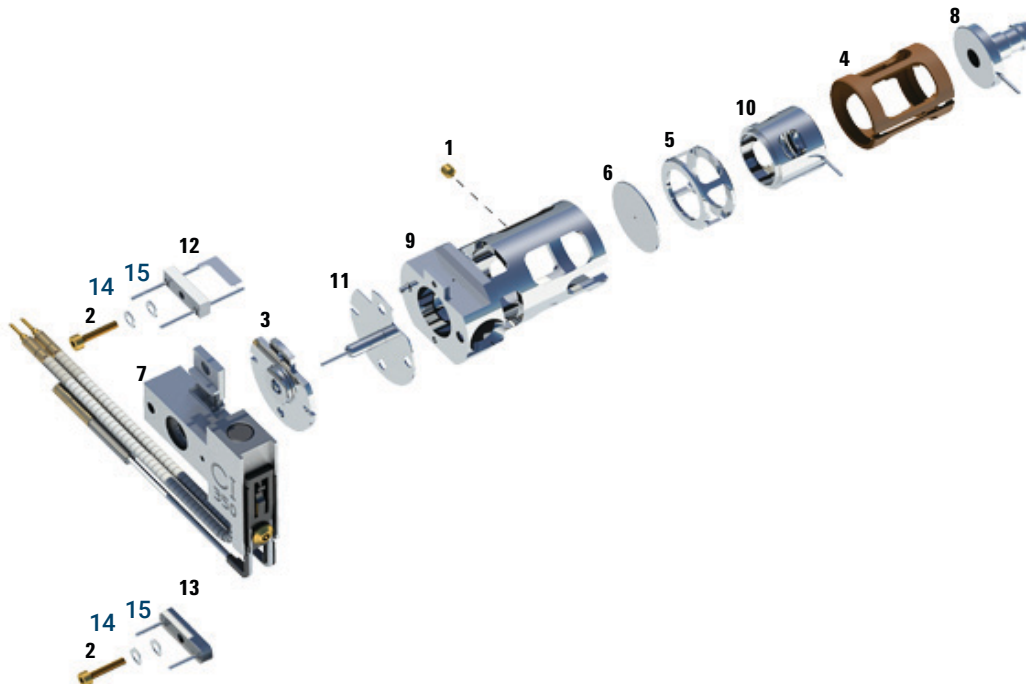

Figure 80. Assembling the CI source
Refer to the exploded parts view **Figure 80** and the CI source parts list **Table 25** on page 245 while using this procedure.
**Table 25** Parts list for CI source (Figure 80)
**Table 25** Parts list for CI source (Figure 80) (continued)